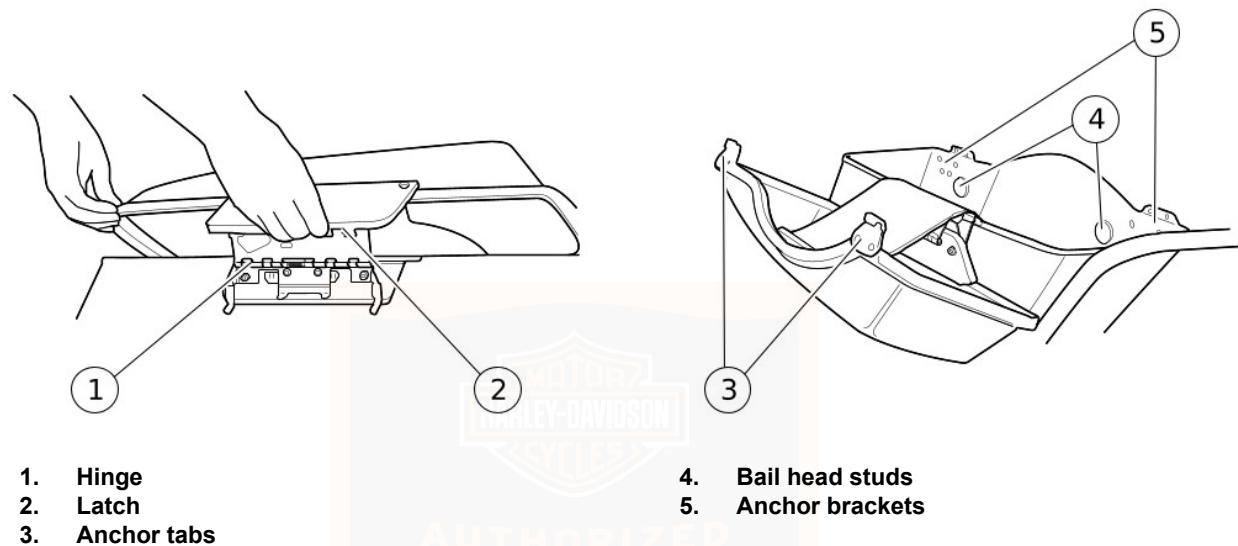

Figure 21. Hard Saddlebags
1. See Figure 21. Unlock latch using ignition key.
1. See Figure 21. Use both hands to hold OUTSIDE corners of cover up and slide inside edge back into place so brackets slide together.
See Figure 21. The saddlebags are secured to the support brackets by 1/4 turn fasteners called bail head studs.
1. See Figure 21. Fasten studs by pushing into support bracket fasteners and turning 1/4 turn clockwise.